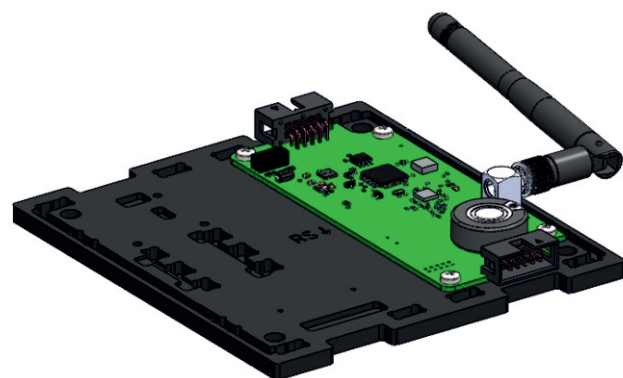

Fig. 25: Connecting the antenna
2) Connect the antenna (Fig. 25) to the UHF board: